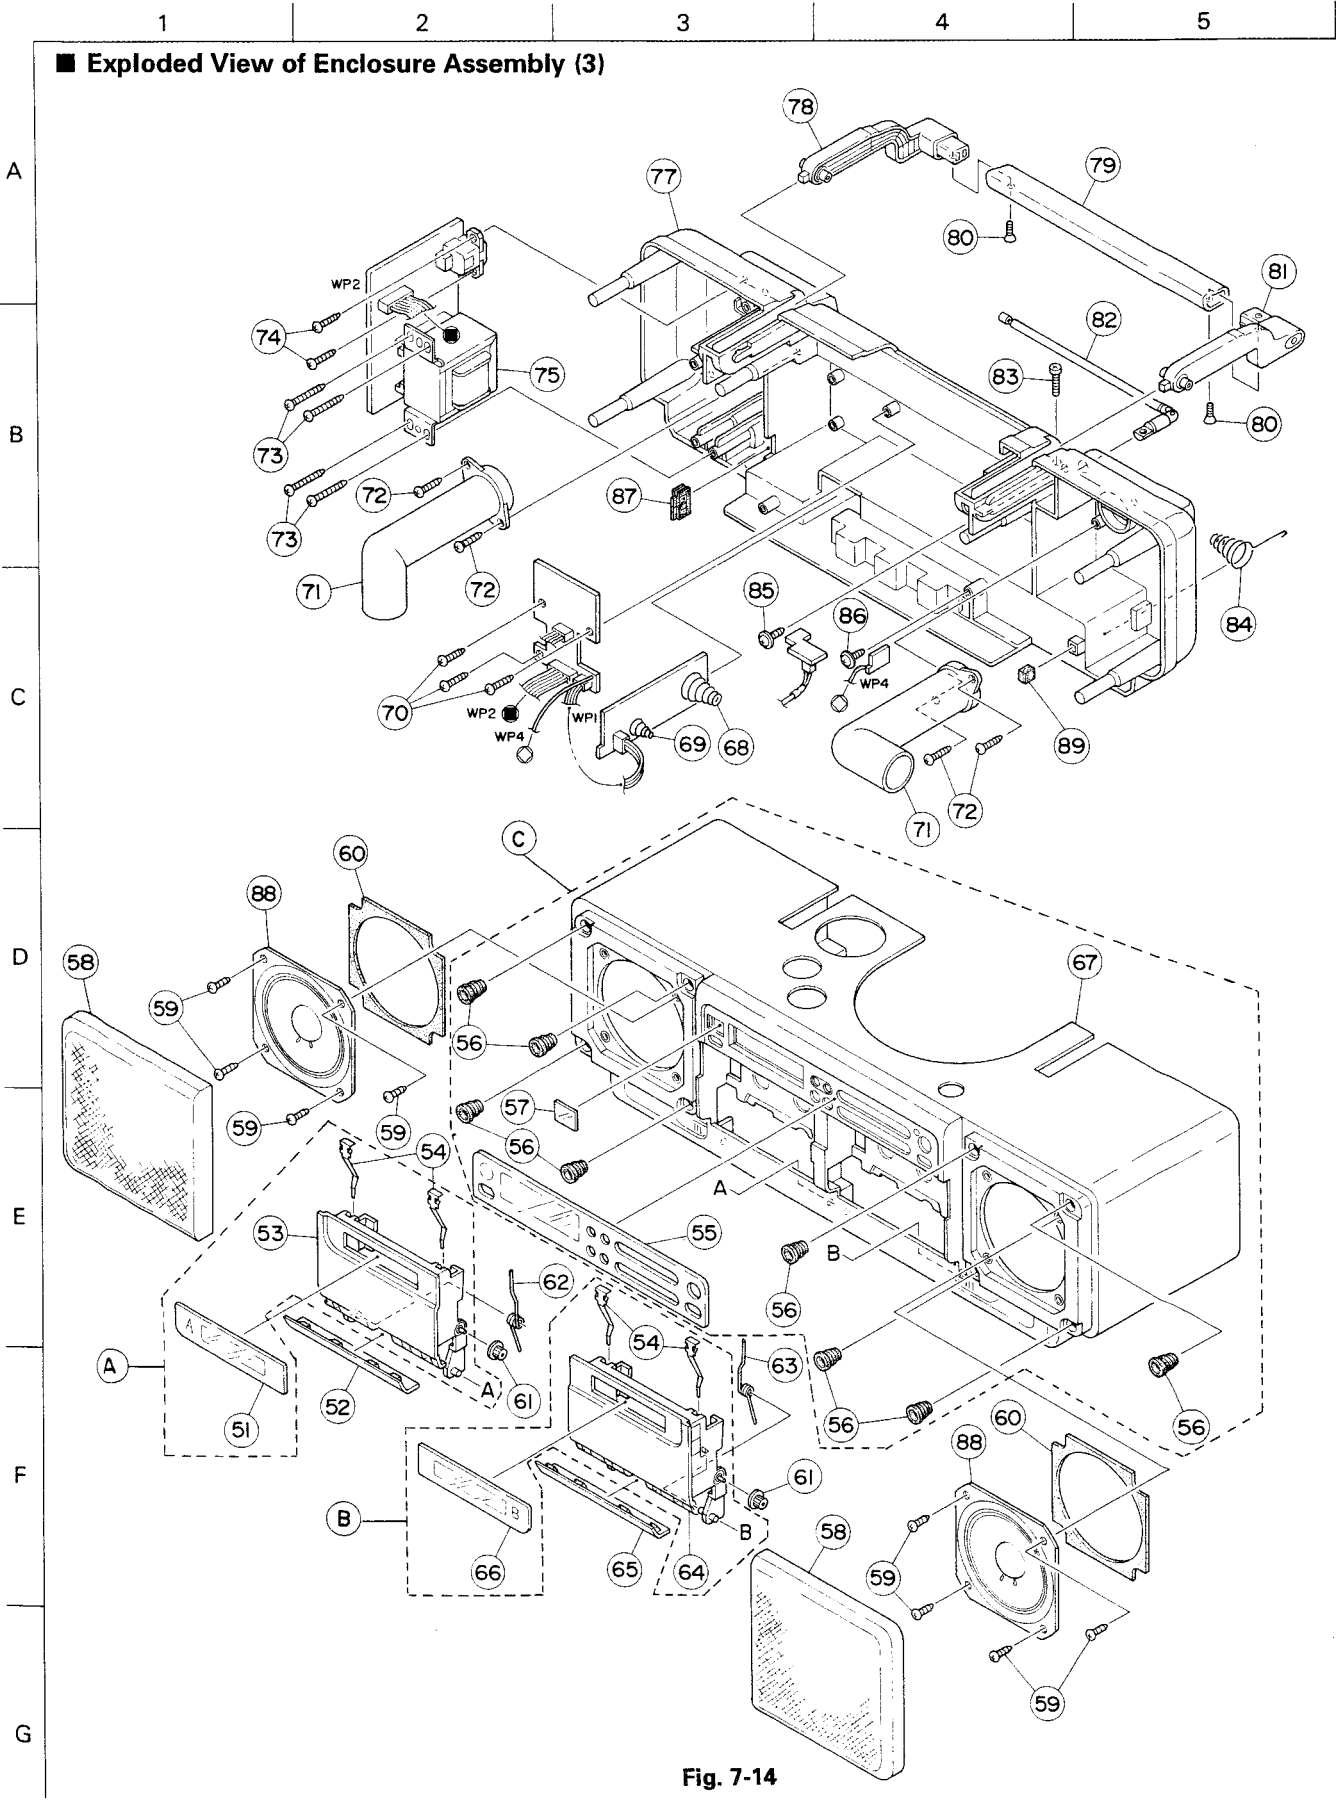
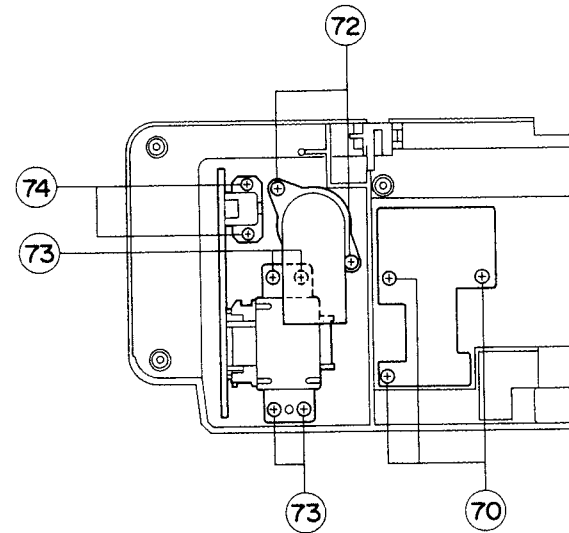
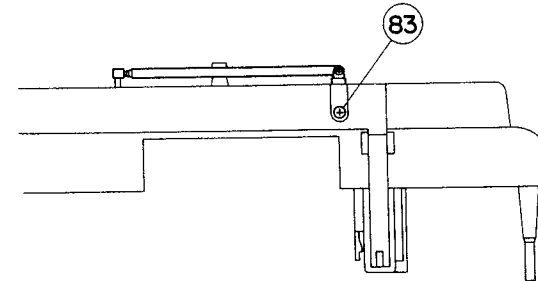

Fig. 7-14
Fig. 7-15
Fig. 7-16
■ Rod antenna assembly (Fig. 7-14, Fig. 7-16)
1. Remove three screws (70) retaining the rectifier board from the side of the rear cover ass'y.
2. Remove a screw (83) retaining the antenna terminal.
■ Speaker and speaker net assembly (Fig. 7-14)
1. Inserting an ordinary (→) screwdriver into a gap between the left speaker net ass'y and the front cover, release the speaker net ass'y from the holder (56) by unlocking the disengaging lever with the screwdriver, then detach the left speaker net ass'y.
2. Remove four screws (59) retaining the left speaker (86) from the front cover ass'y side.
■ Cassette door assembly (Fig. 7-14)
1. Remove the left cassette door ass'y ((51),(52),(53),(54),(61)) and a spring (62) retaining the front cover ass'y.
■ Front cover (Fig. 7-14)
For replacing the front cover alone, refer to the explanation about removal of the front cover ass'y (page 31) and remove the speaker net, speaker, cassette door as shown in Fig. 7-14. (Detail of removing procedure is omitted.)
■ Rear cover (Fig. 7-14)
■ Power supply board assembly (Fig. 7-14, Fig. 7-15)
1. Remove four screws (73) retaining the power transformer from the side of the rear cover ass'y.
2. Remove two screws (74) retaining the AC socket from the side of the rear cover ass'y and take out the power supply board.
■ Rectifier board (Fig. 7-14, Fig. 7-15)
2. Draw out the board that is fitted with springs (68) and (69) to retain UM3 and UM1 batteries.
3. Remove a screw (83) retaining the contact board.
■ Enclosure Assembly Parts List (4)